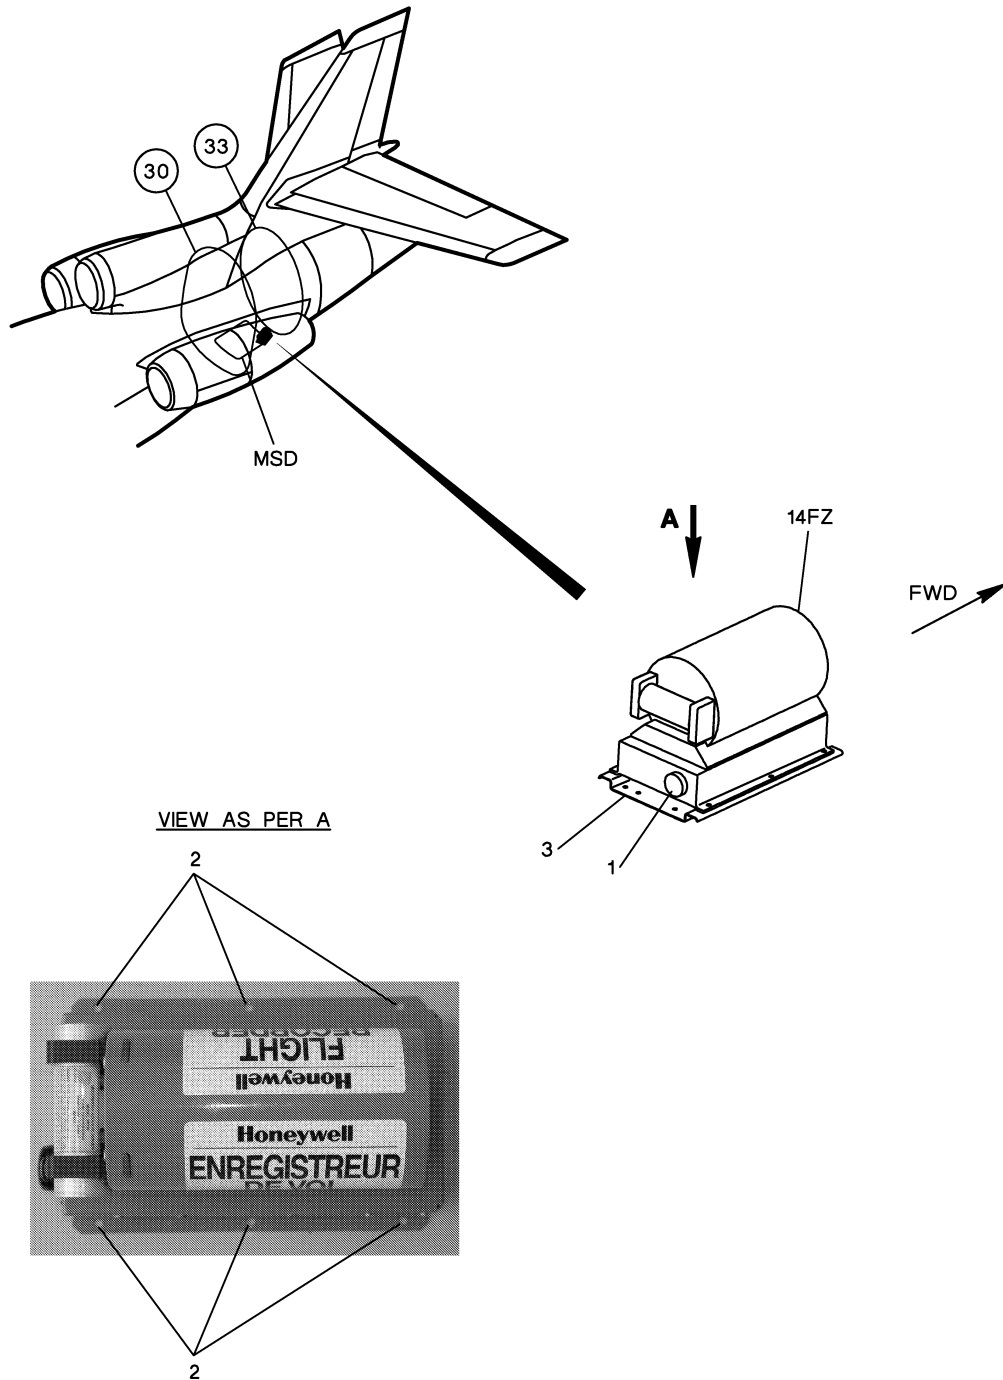
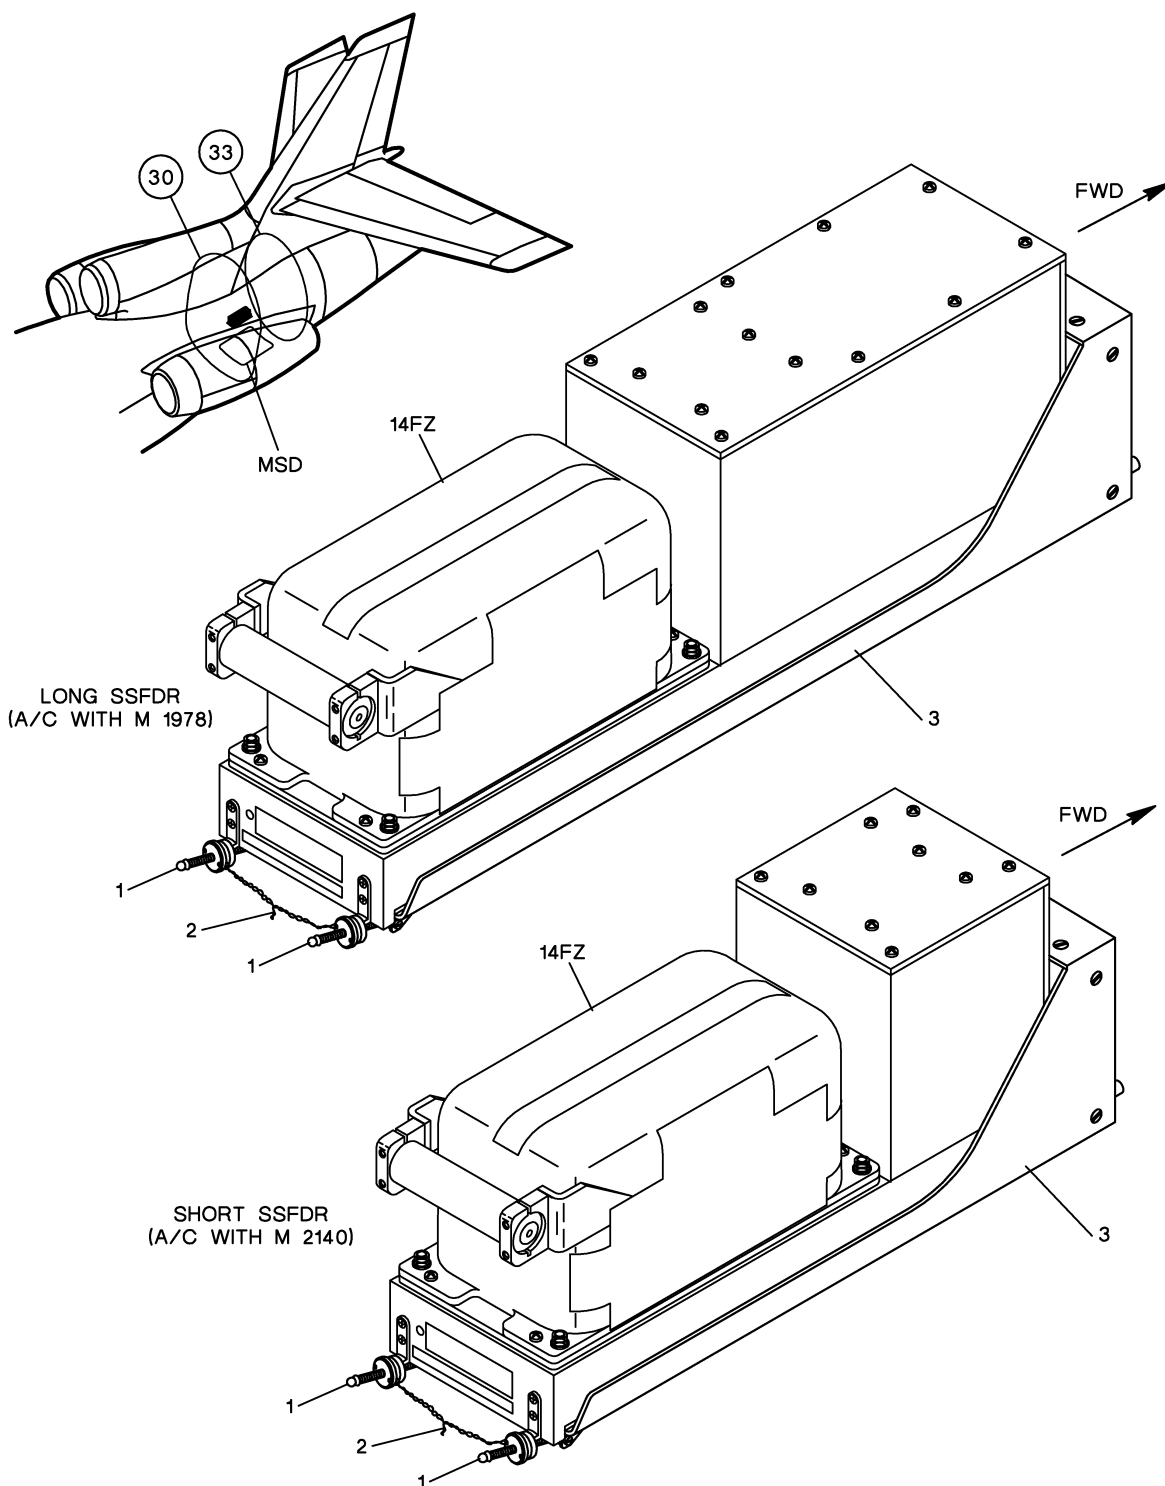

Figure 2: Removal/Installation of ALLIED SIGNAL "AR-Series" FDR (A/C WITH M 2842)
Figure 3: Removal/Installation of ALLIED SIGNAL "Solid State" FDR (A/C WITH M 1978 OR M 2140)
- A. Removal of ALLIED SIGNAL "AR-Series" FDR (**14FZ**) (A/C with M 2842) (**fig. 2**)
- (1) In the mechanic's servicing compartment (**MSD**):
- (a) Disconnect the electrical cable from connector (1).
- (b) Remove the six screws with their washers (2).
- (c) Carefully extract FDR (**14FZ**) from its support (3).
- B. Removal of ALLIED SIGNAL "Solid State" FDR (A/C with M 1978 or M 2140) (**fig. 3**)
- (a) Unsafety the two quick-disconnect locks (1) by cutting lockwire (2).
- (b) Loosen and clear the two quick-disconnect locks (1).
- (c) Carefully extract FDR (**14FZ**) from its support rack (3).
- A. Installation of ALLIED SIGNAL "AR-Series" FDR (**14FZ**) (A/C with M 2842) (**fig. 2**)
- (a) Position FDR (**14FZ**) on its support (3).
- (b) Tighten the six screws with their washers (2).
- (c) Connect the electrical cable to connector (1).
- B. Installation of ALLIED SIGNAL "Solid State" FDR (**14FZ**) (A/C with M 1978 or M 2140) (**fig. 3**)
- (a) Position FDR (**14FZ**) on its support rack (3) and bring it in contact with its locating pins.